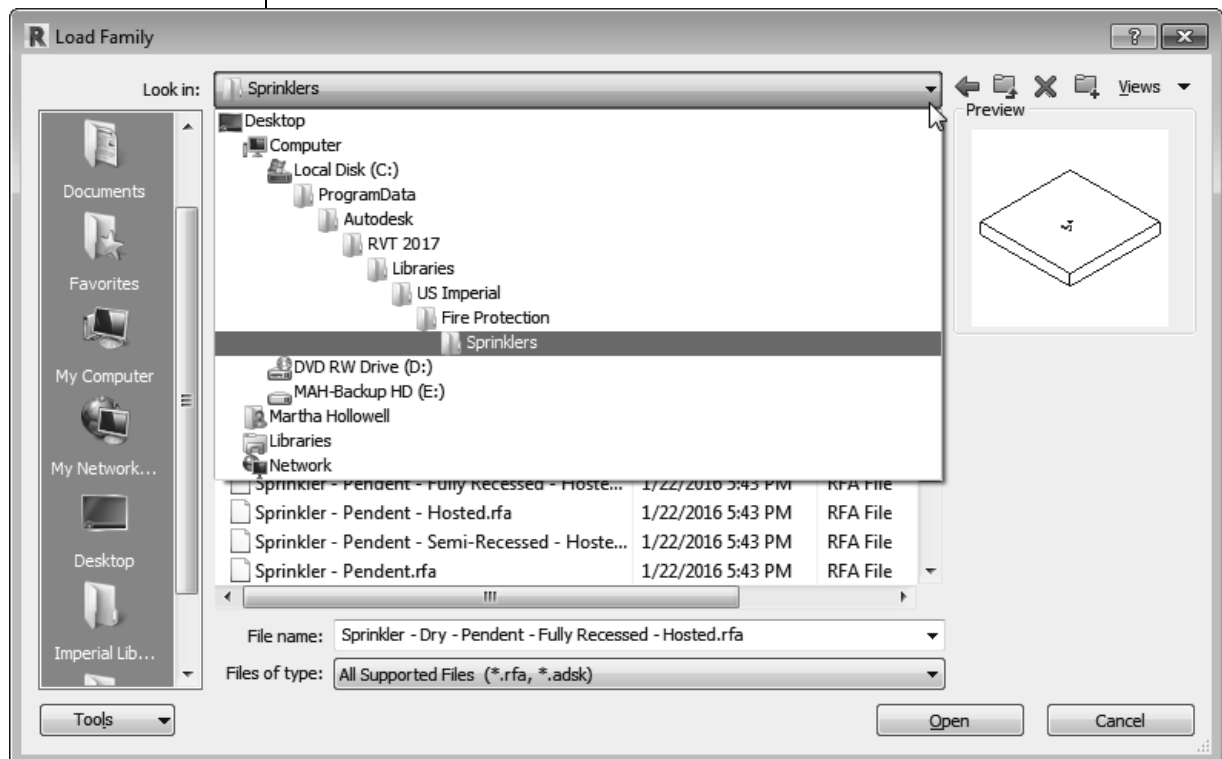

Figure 2–20
2. In the Load Family dialog box, locate the folder that contains the family or families you want to load, as shown in Figure 2–20.